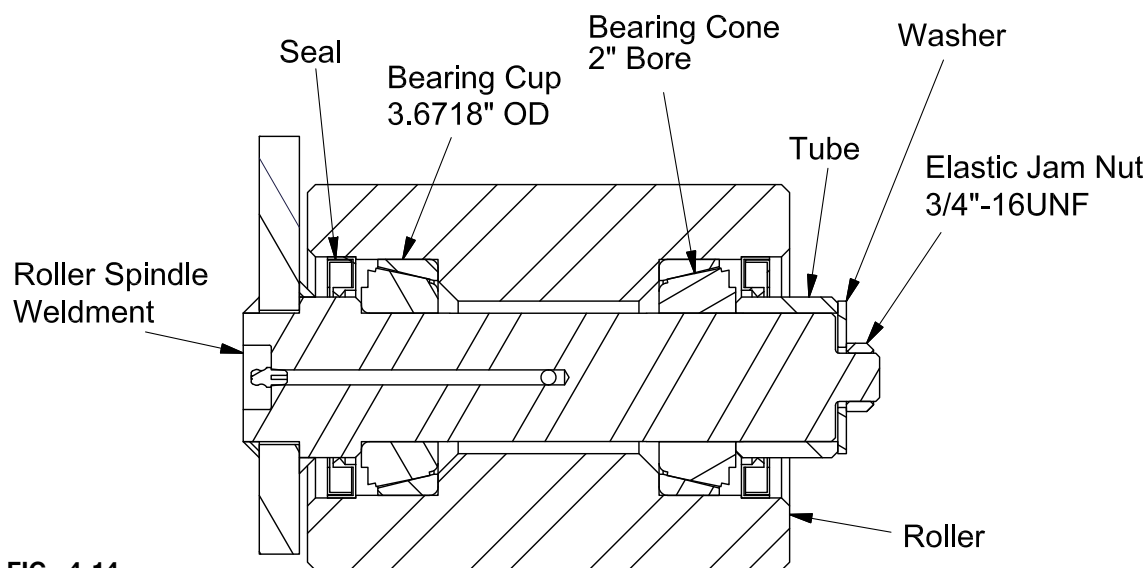

FIG. 4-14
2. Use grease to lubricate the seal lip. (FIG. 4-14)
3. Place the roller onto the roller spindle weldment. Rotate the roller while doing this so the seal lip does not fold under as the lip goes on the seal lip of the roller spindle weldment. (FIG. 4-14)
4. Be sure the outer bearing cone slides on the roller spindle weldment and into the bearing cup. (FIG. 4-14)
5. While rotating the roller, tighten the elastic jam nut to remove all play. (FIG. 4-14)
6. Turn the elastic jam nut 1/6" turn to seat. (FIG. 4-14)